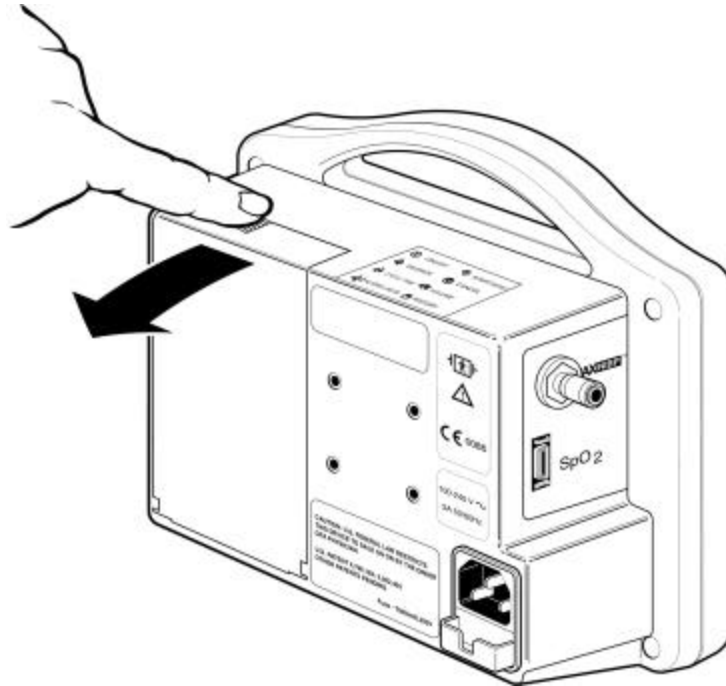

FIGURE 22
- 3) Carefully remove the battery pack from the rear panel of the monitor. Refer to Figure 22.